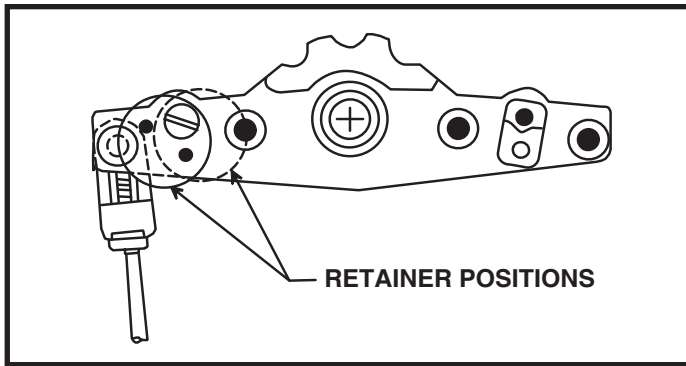

FIGURE 4
6. Place cable hub into groove on lower part of main housing and retain with plate (24), screw (22) and bowed washer (23).
Fasten terminal (20) to arm (17) with pin (29), retainer (19), screw (18) and nut (12). (See Figure 4 & 5.)